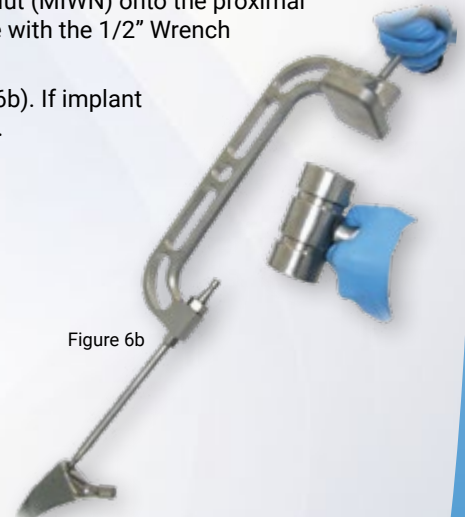

Figure 6b
5. Extract implant with repeated strikes of the Mallet (MMM5) on the strike plate (Fig. 6b). If implant resists removal after several strikes, loosen bone around implant prior to continuing.